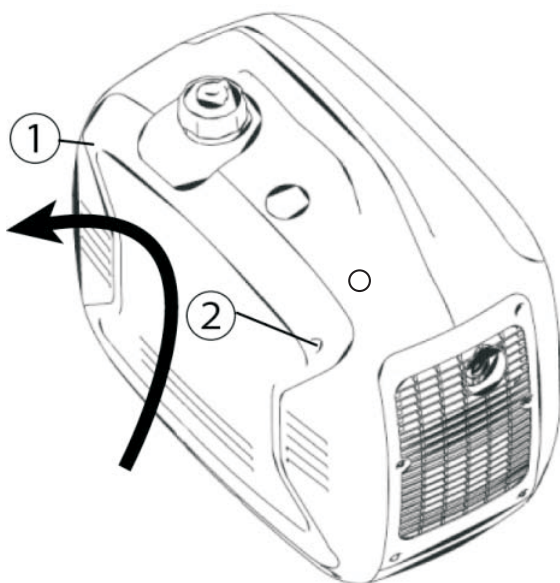

Figure 1
IN ORDER TO ADD MOTOR OIL YOU WILL NEED TO REMOVE THE SIDE PANEL FROM THE UNIT(Figure1).
Using a #2 Phillips-head screwdriver remove screws ① and ② (seen in figure 1) and lift up and away to remove the side panel.